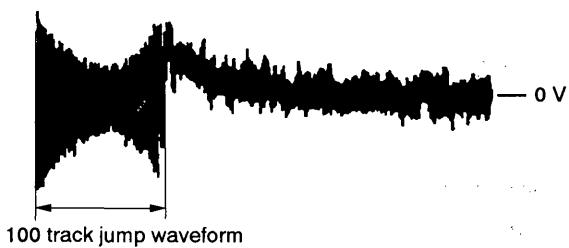

Fig. 3
7. Press **▶ (▶▶)** or **◀◀** key and observe the 100 track jump waveform. Check that no traverse waveform appears for both **▶ (▶▶)** or **◀◀** directions. (See Figures 3 and 4.) It is acceptable if the traverse waveform appears only now and then, but if it appears constantly, raise tracking gain slightly and check step 7 again.